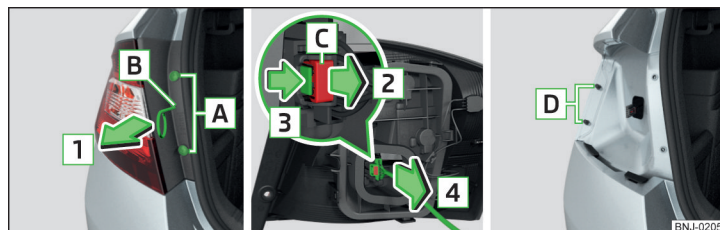

Fig. 218 Remove light / pull out connector
- Grasp the light with the palm of the hand and remove carefully in the direction of arrow **1** » Fig. 218 from the pin **D**.
- Tighten the lock in the opposite direction to the arrow **2** » Fig. 218.
» Fig. 218 in the body.